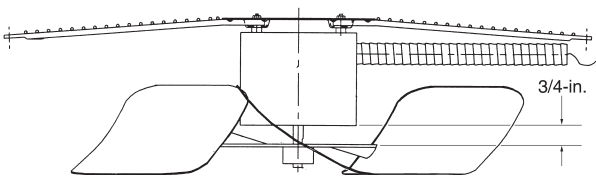

Fig. 33 - Condenser-Fan Adjustment
**Condenser-Fan Adjustment (Fig. 33)**
3. Adjust fan height as shown in Fig. 33.